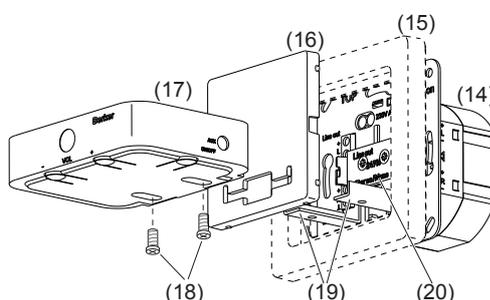

Figure 3: Installation
- Put the insert (figure 3, 14) into the flush-mounted box correctly positioned and screw together with the screws provided.
- Attach frame (figure 3, 15) of the appropriate switch range and centre plate of the docking station (figure 3, 16). Snap centre plate onto the mounting piece (figure 3, 20).
- Attach the device holder (figure 3, 17) to the support bracket (figure 3, 19) of the insert and carefully insert the contact pins into the socket on the insert without bending the contact pins.
- Screw the device holder and the support brackets together through the screw holes at the bottom on the insert (figure 3, 19) using the screws provided M3 (figure 3, 18).